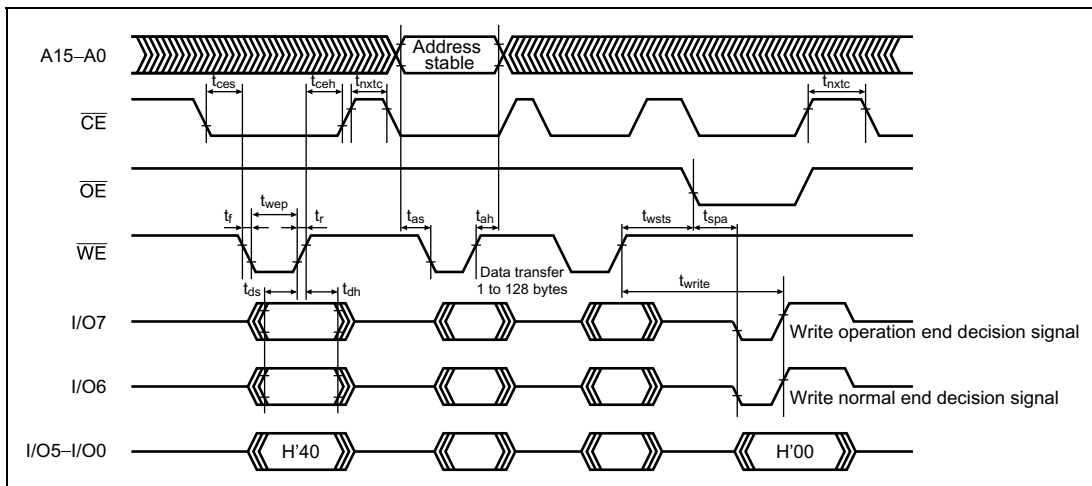

Figure 6.17 Auto-Program Mode Timing Waveforms
5. Memory address transfer is performed in the second cycle (figure 6.17). Do not perform transfer after the third cycle.
| Command write cycle | t_{nxtc} | 20 | — | μs | Figure 6.17 |